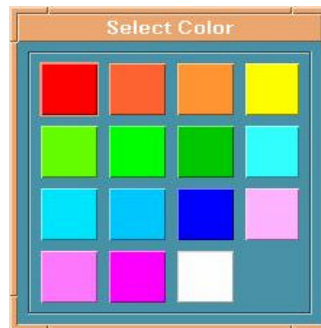

Figure 4.1.2 Select Color
3. Select the COLOR button and the SELECT COLOR window is displayed allowing the user to choose a color, see Figure 4.1.2.